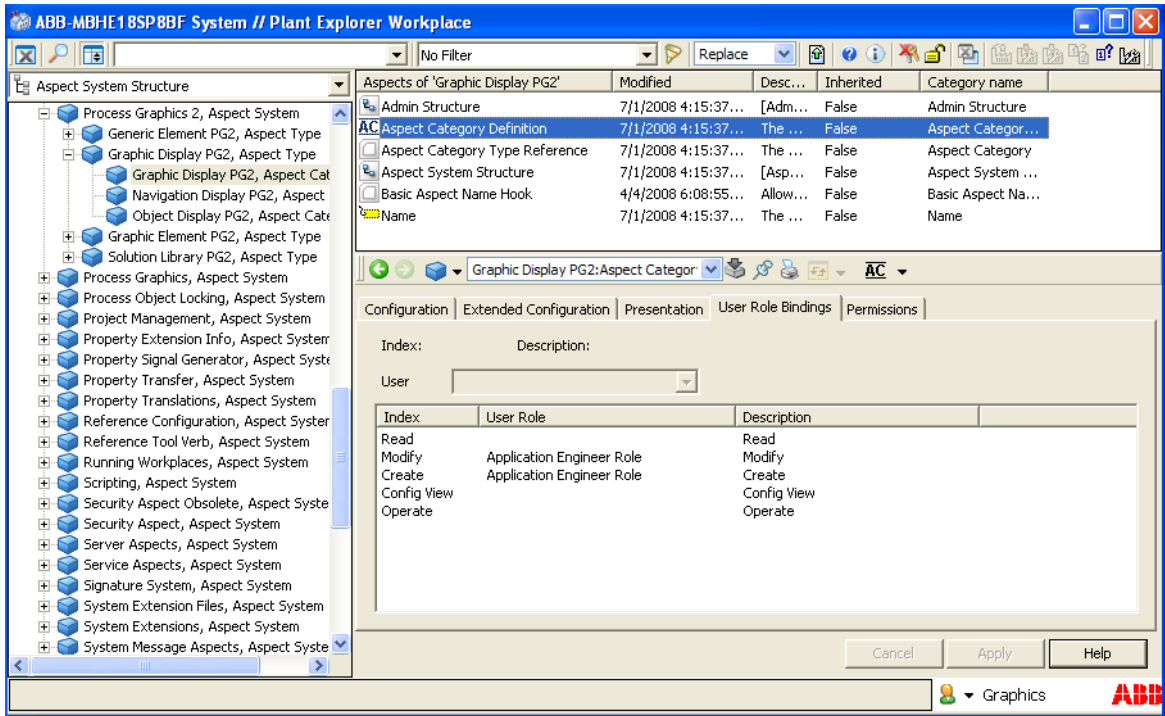

Figure 85. Permission/Operation Mapping on a Graphic Aspect
**Operation/Permission mapping** is a mapping between operations and permissions for the built-in aspect categories. This shows the access rights required for a user to execute different operations. The user requires read permission to view the graphic aspect and configure permission to modify the aspect as shown in Figure 85.